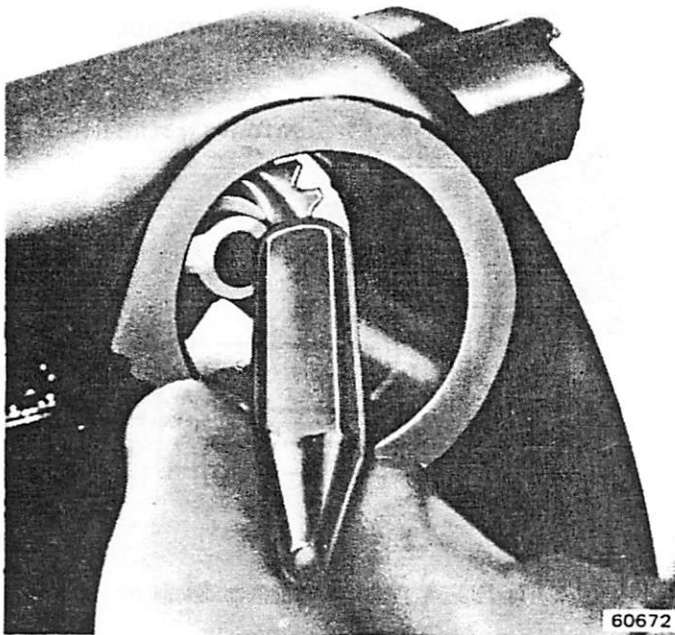

Fig. 2J-17 Sector Installation
(1) Coat all friction and bearing surfaces with chassis grease before assembly.
(2) Install lock sector on sector shaft. Install sector through lock cylinder hole in housing (fig. 2J-17). Use blunt tool to press sector onto shaft. Be sure sector turns freely after installation.
(3) Install rack preload spring (fig. 2J-15). Bowed side of spring must bear against lock rack when rack is installed.
(4) Assemble lock bolt and lock rack (fig. 2J-18).